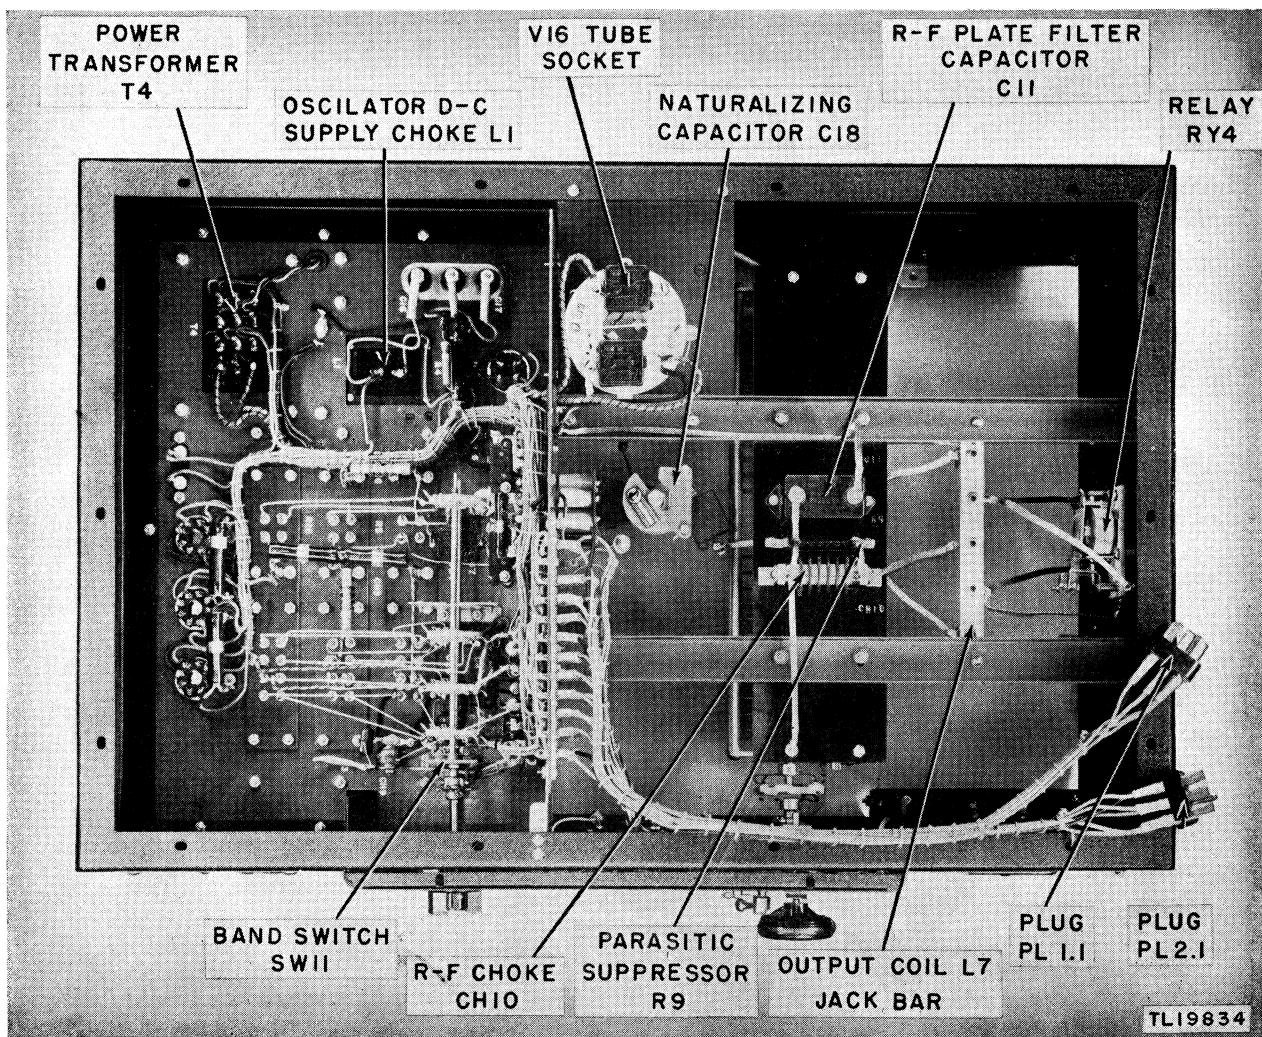

Figure 10. Radio Transmitter BC-610-A, -B, -C, and -D, r-f section, bottom view.
(4) Lay the transmitter on its *right side* (side opposite feed-through insulators) to gain access to the bottoms of the r-f chassis, modulator chassis, and power supply chassis. (See figs. 10 and 12.)